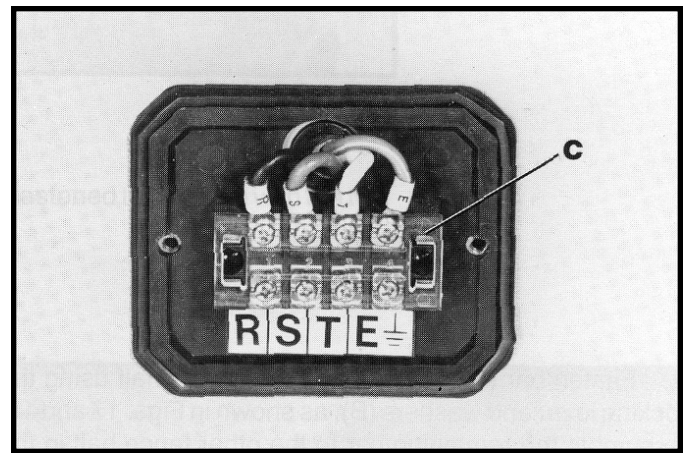

Fig. 38A
2. Remove clear plastic insulator (C) Fig. 38A, that covers the terminals.